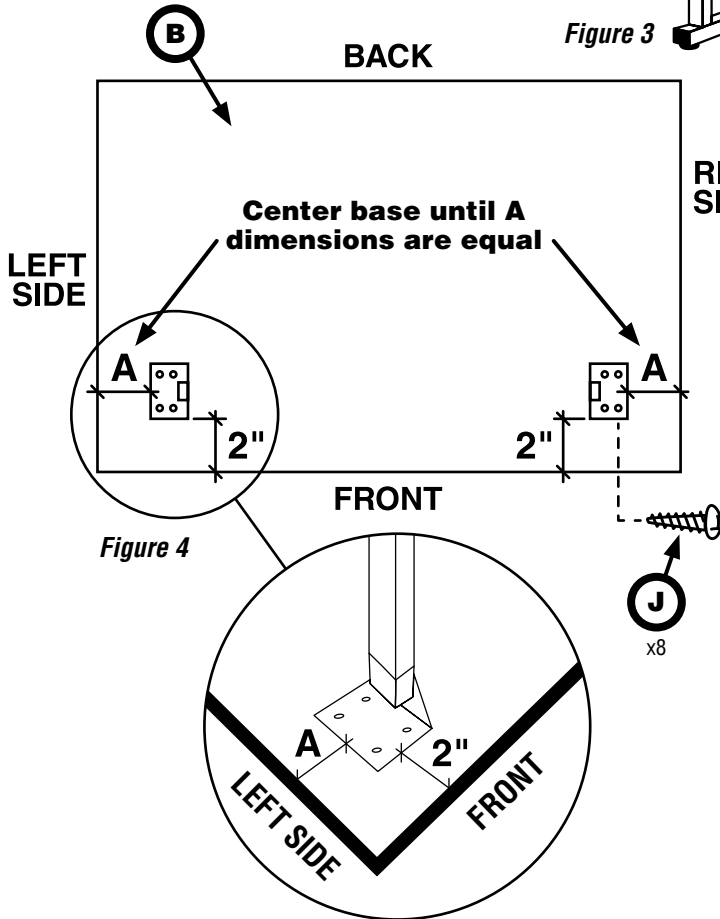

Figure 4
8 Place tabletop (B) with preferred side facing down on carpeted or protected floor. Place assembled base upside down on tabletop. Position the base so mounting brackets on front extension tubes are 2" from the top of the board (see *Figure 4*). Center the base horizontally across the board to determine final placement (distance A will be equal on left and right sides of front extension tubes, see *Figure 4*). Using a 1/8" drill bit, gently drill 1/4" deep holes where marked after measuring. Fasten all 5/8" wood screws and tighten securely. Use care not to overtighten and strip.